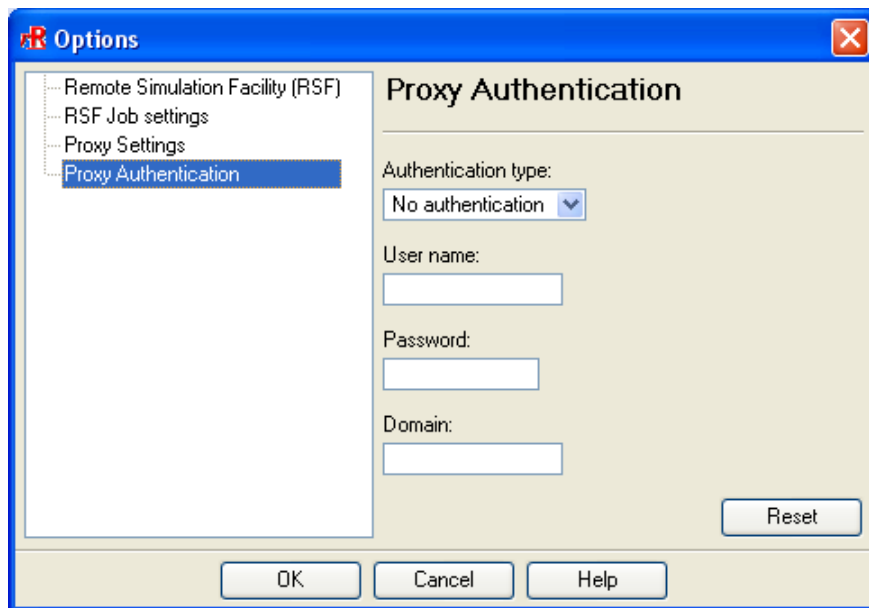

Figure 27.11.29: The Proxy Authentication Panel
- iv. Select the **Proxy Authentication** node in the tree (Figure 27.11.29) to set the proxy parameters. Select the **Authentication type** from the drop-down list and enter the **User name**, **Password**, and **Domain**. The **Reset** button allows you to return to your original settings.